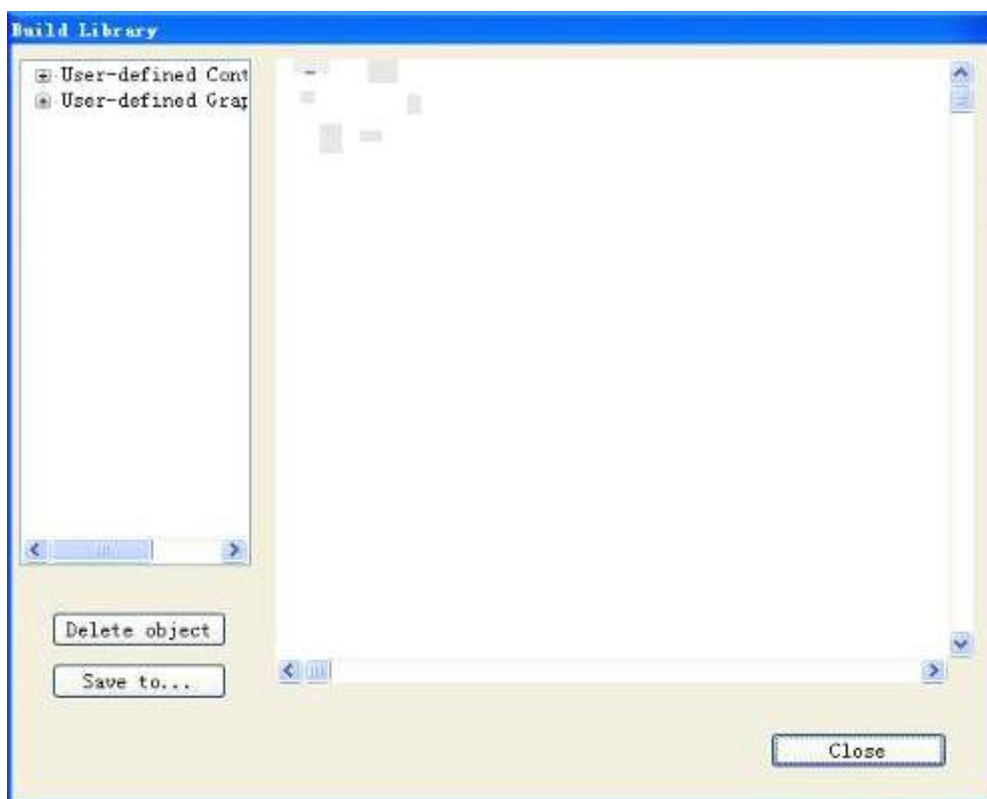

Figure 4-51: Save path selection dialog
- Click “Save to” button, a dialog as shown in Figure 4-51 will pop up.